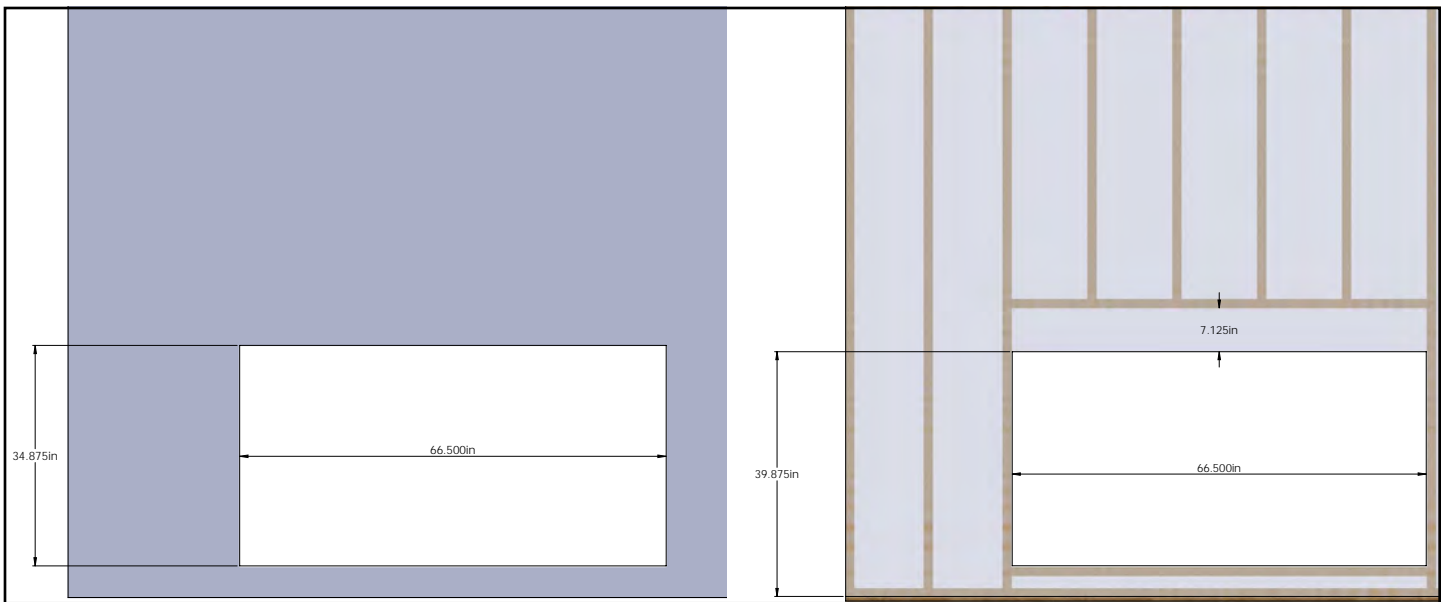

Figure 15.0.02
Step 01: Install the facing material. Facing material may be combustible. See **Figure 15.0.02** for facing material dimensions.